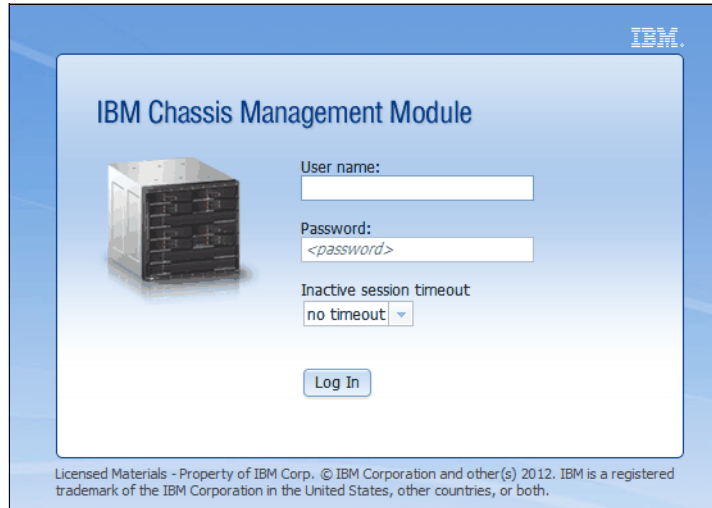

Figure 3-5 IBM Chassis Management Module Login panel
2. At the Login panel, enter your User name and Password, and set the Inactive session time-out value, as shown in Figure 3-5.